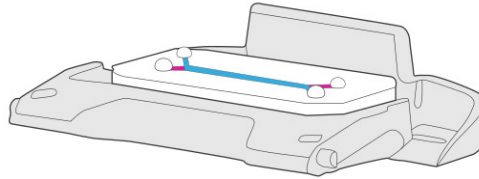

Figure 4: Chip in chip carrier with small droplets of ECM solution at ports
5. Introduce ECM solution through the top channel inlet, leaving small droplets of excess ECM solution on both ports in both channels. (See Fig. 4 below.)